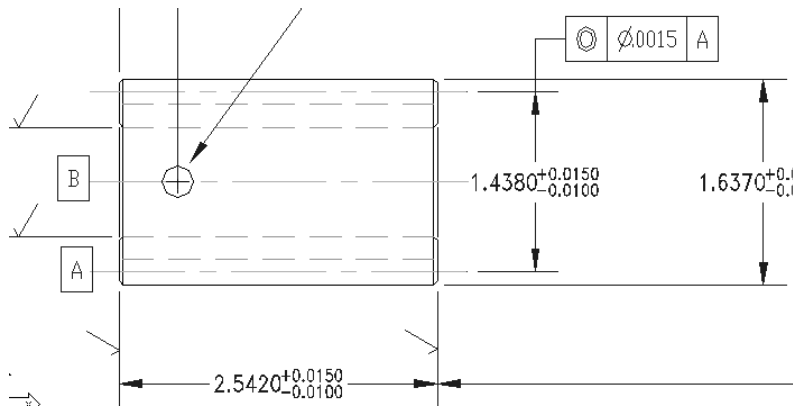

Figure 15-31: Deviation tolerances
- ♦ **Deviation** tolerances can have different upper and lower amounts and are therefore shown after separate plus and minus signs, as shown in Figure 15-31. When you choose a deviation tolerance, the Upper value and Lower value text boxes become active.